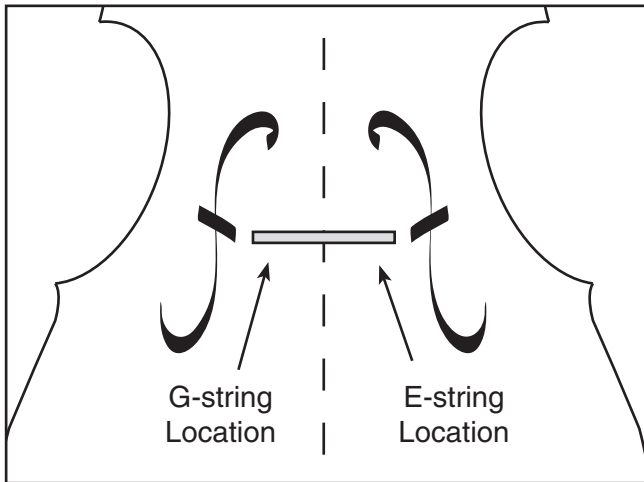
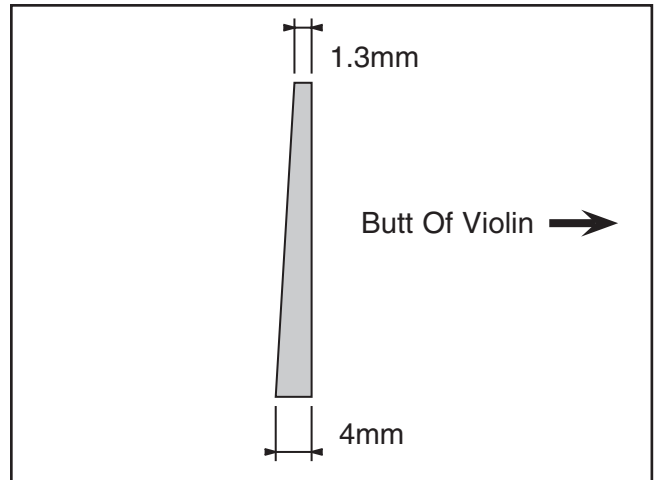

Figure 9. Bridge location.
Figure 10. Correct bridge thickness (Cross-Section Side View)
1. Place the bridge on the violin top, centered between the inside notches of the f-holes (**Figure 9**). Note—*When viewed from the side, the flat side of the bridge should face the butt of the violin and the tapered side should face the front (Figure 10).*
4. Using sandpaper, reduce the thickness of the bridge until the top is 1.3mm thick and the base is 4mm thick (**Figure 10**).